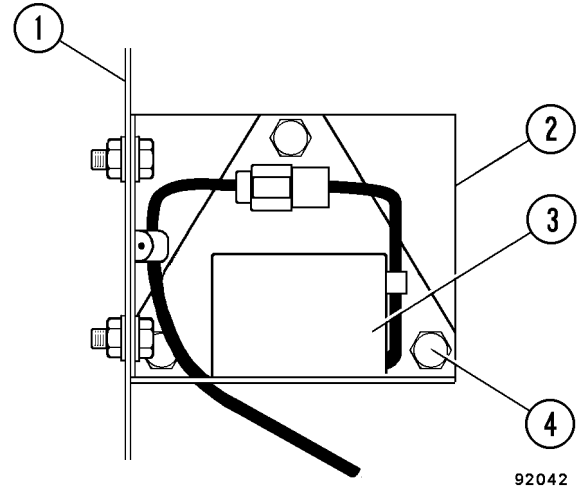

FIGURE 6-13. INCLINOMETER
2. Remove the three capscrews, nuts and lockwashers (4, Figure 6-13) and inclinometer (3).
1. Install inclinometer (3, Figure 6-13) with cap-screws, nuts and lockwashers (4).
2. Loosen the three Inclinometer mounting cap-screws (4, Figure 6-13) and rotate the Inclinometer until a voltage range of 2.6 ± 0.1 Volts can be measured (using a Volt/Ohm Meter) at pins 1 and 2 of the inclinometer electrical harness connector.
3. Tighten all capscrews (4, Figure 6-13) to standard torque, after adjustment.